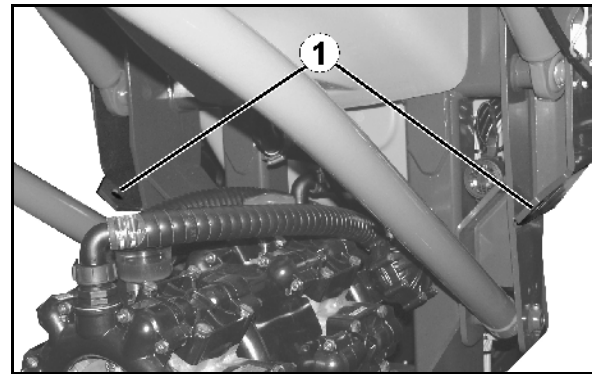

Fig. 4
- 2 Rear lashing points (Fig. 4/1)